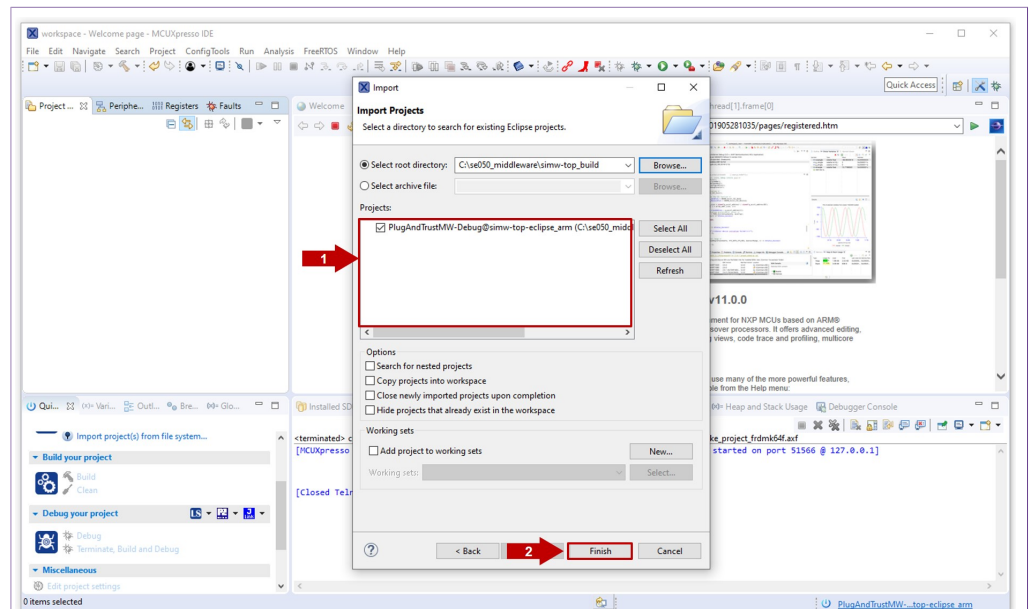

Figure 28. Import EdgeLock SE50 Plug & Trust middleware
- After selecting `C:\se50_middleware\simw-top_build` folder, a project called `PlugAndTrustMW` should be visible in the "projects" area. Click `Finish` button to import this project into your workspace as shown in Figure 28: